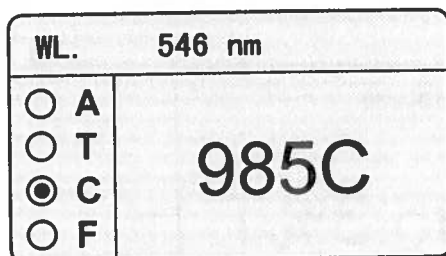

Fig. 4-8
- 5) Pull the unknown concentration sample in the light path, then its concentration displays on the screen. (Fig. 4-8);